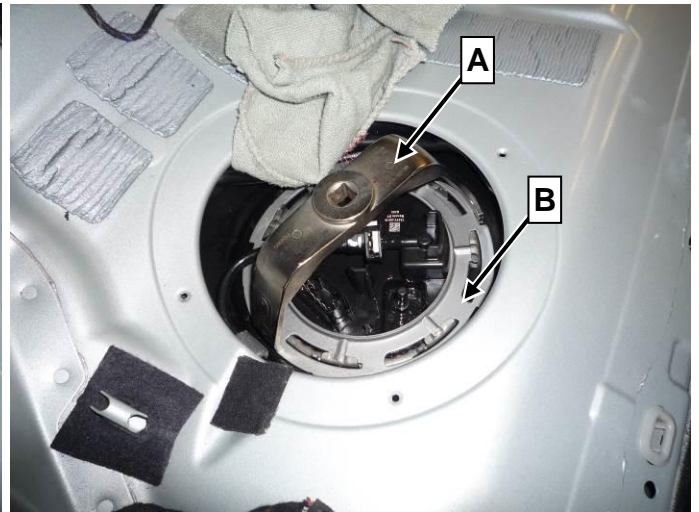

Figure 3
3. Open flange (B, Figure 3) on fuel feed module using special tool (A), refer to WIS: AR47.20-P-5710LW (**only** up to operation step 11).